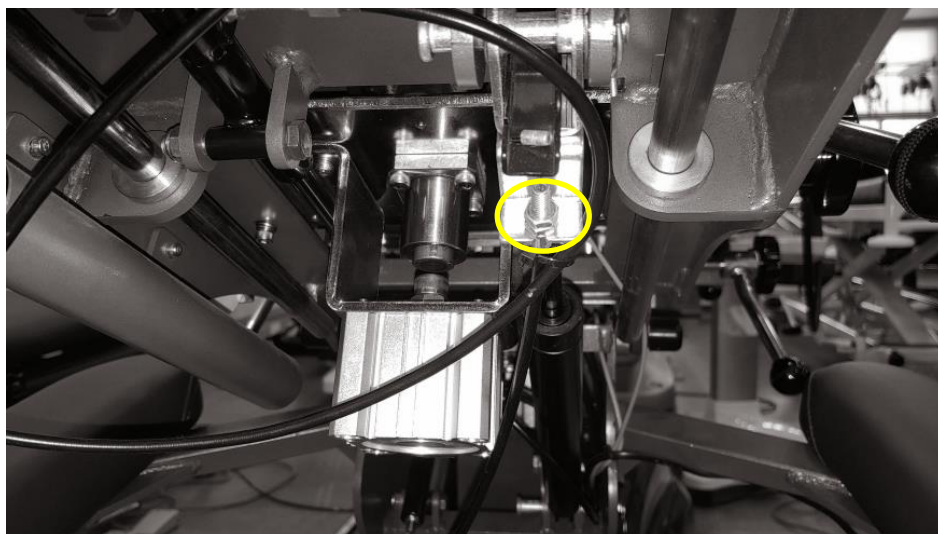

Figure 2.2
2. Remove the 10 mm bolts and remove the broken wire (see Figure 2.2)